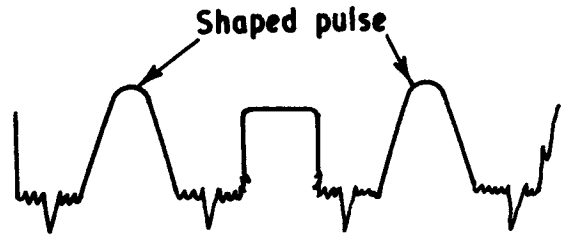

Figure 6-9h
8. Transfer the oscilloscope CH2 vertical INPUT to the KLYSTRON INPUT REFLECTED jack and observe the waveform shown in Figure 6-9h. Adjust the klystron input cavity for minimum amplitude of the square pulse while maintaining its symmetry around the shaped pulse.